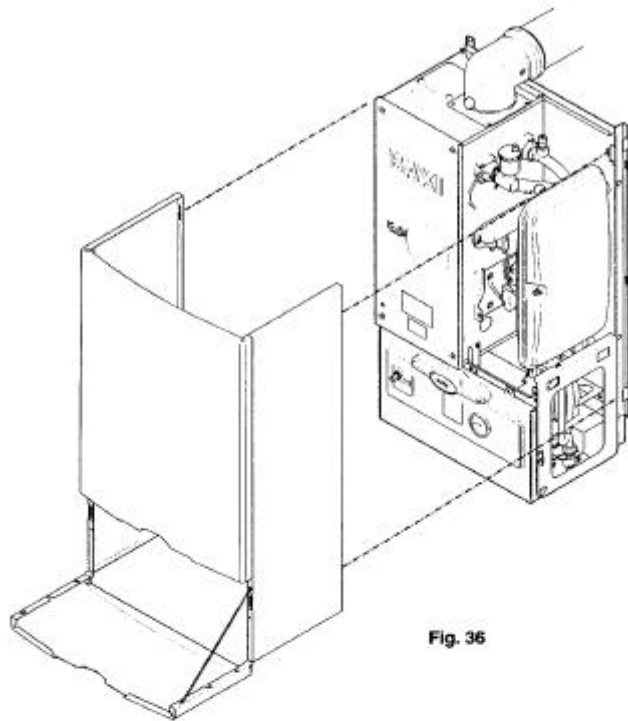

Fig. 36
1. Position the outercase on the chassis, ensuring that the four slots in the side flanges align with the hooks on the chassis (Fig. 36).